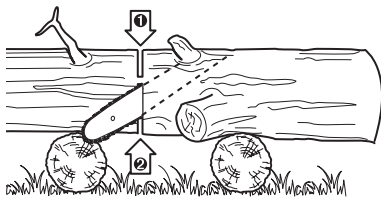

Fig. 34
3. When the log is supported on both ends (Fig. 34), cut 1/3 the diameter from the top (overbuck). Then make the finished cut by underbucking the lower 2/3 to meet the first cut.